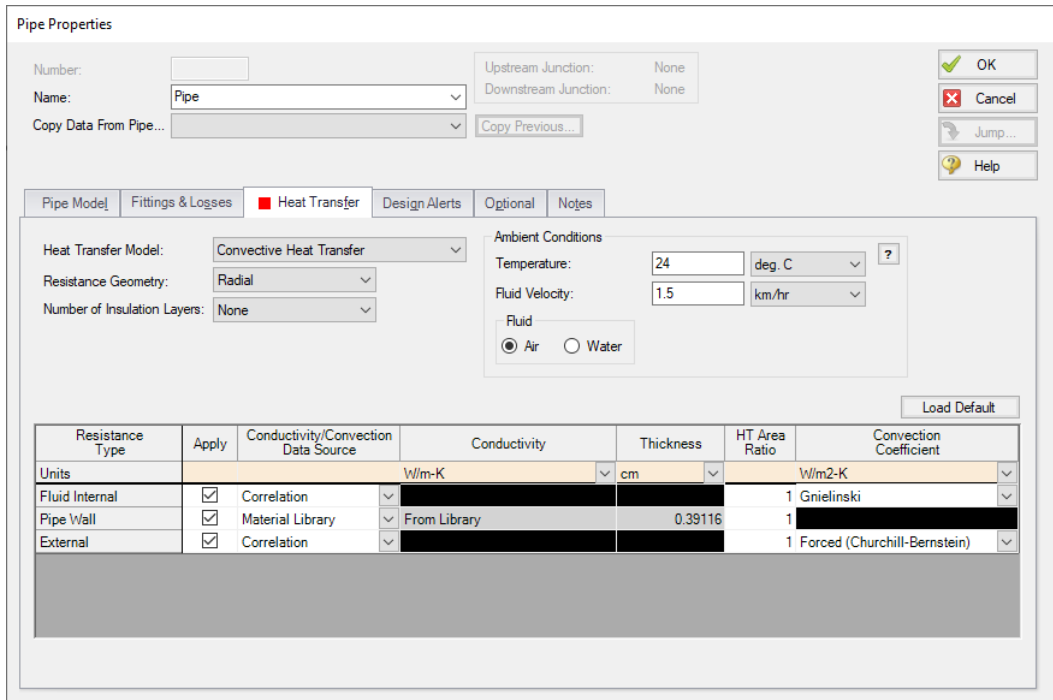

Figure 3.3 The Heat Transfer tab is where you specify heat transfer properties for the pipe
Click on the Heat Transfer tab. Select “Convective Heat Transfer” for the Heat Transfer Model, and enter 24 deg. C for the Ambient Temperature and 1.5 km/hr for the Fluid Velocity with Air as the fluid. Also, ensure that the Gnielinski correlation is selected under the Convection Coefficient column in the Fluid Internal row, and that Forced (Churchill-Bernstein) is chosen in the External row. The Pipe Properties window should appear as shown in Figure 3.3. Select OK.
2. For this case, you should use the highest ambient temperature of 24 deg. C and minimum velocity of 1.5 km/hr which will yield the lowest heat loss. Since you used this same data when you added the pipe heat transfer data in the Base Scenario using the Global Pipe Edit feature, the pipes in this scenario have already inherited this heat transfer data, so no change in the heat transfer data is necessary. To verify this, click on Pipe P2 to open the Pipe Properties window. Select the Heat Transfer tab. The data should appear the same as shown in Figure 3.3.